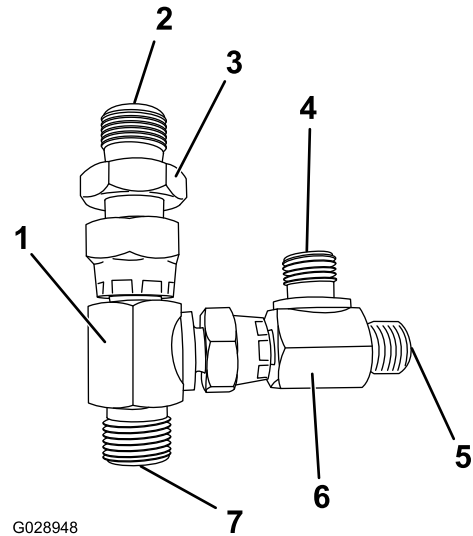

Figure 4
1. Assemble the rear tee assembly (Figure 4).
8. Attach the 3/8-inch hose from the front tee assembly to the bottom of the rear tee assembly (Figure 4).
9. Attach the end of the 1/4-inch hose from the center, rear cutting-unit to the rear tee assembly (Figure 4).
10. Attach the end of the new 1/4-inch hose from the right, rear cutting-unit to the rear tee assembly (Figure 4).
11. Attach the straight end of the new 3/8-inch hose to the top of the rear tee assembly (Figure 4).